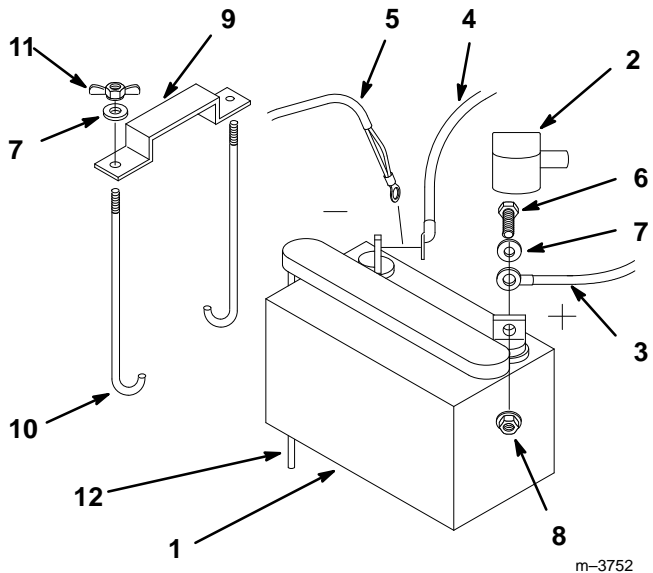

Figure 7
- Position battery in tray with terminal posts toward the engine (Fig. 7).
- Secure cables with (2) 1/4 x 3/4” (19 mm) bolts 1/4” washers and 1/4” locknuts (Fig. 7).
- Secure battery with J-bolts, hold down clamp and (2) 1/4” washers and (2) 1/4” wing nuts (Fig. 7).